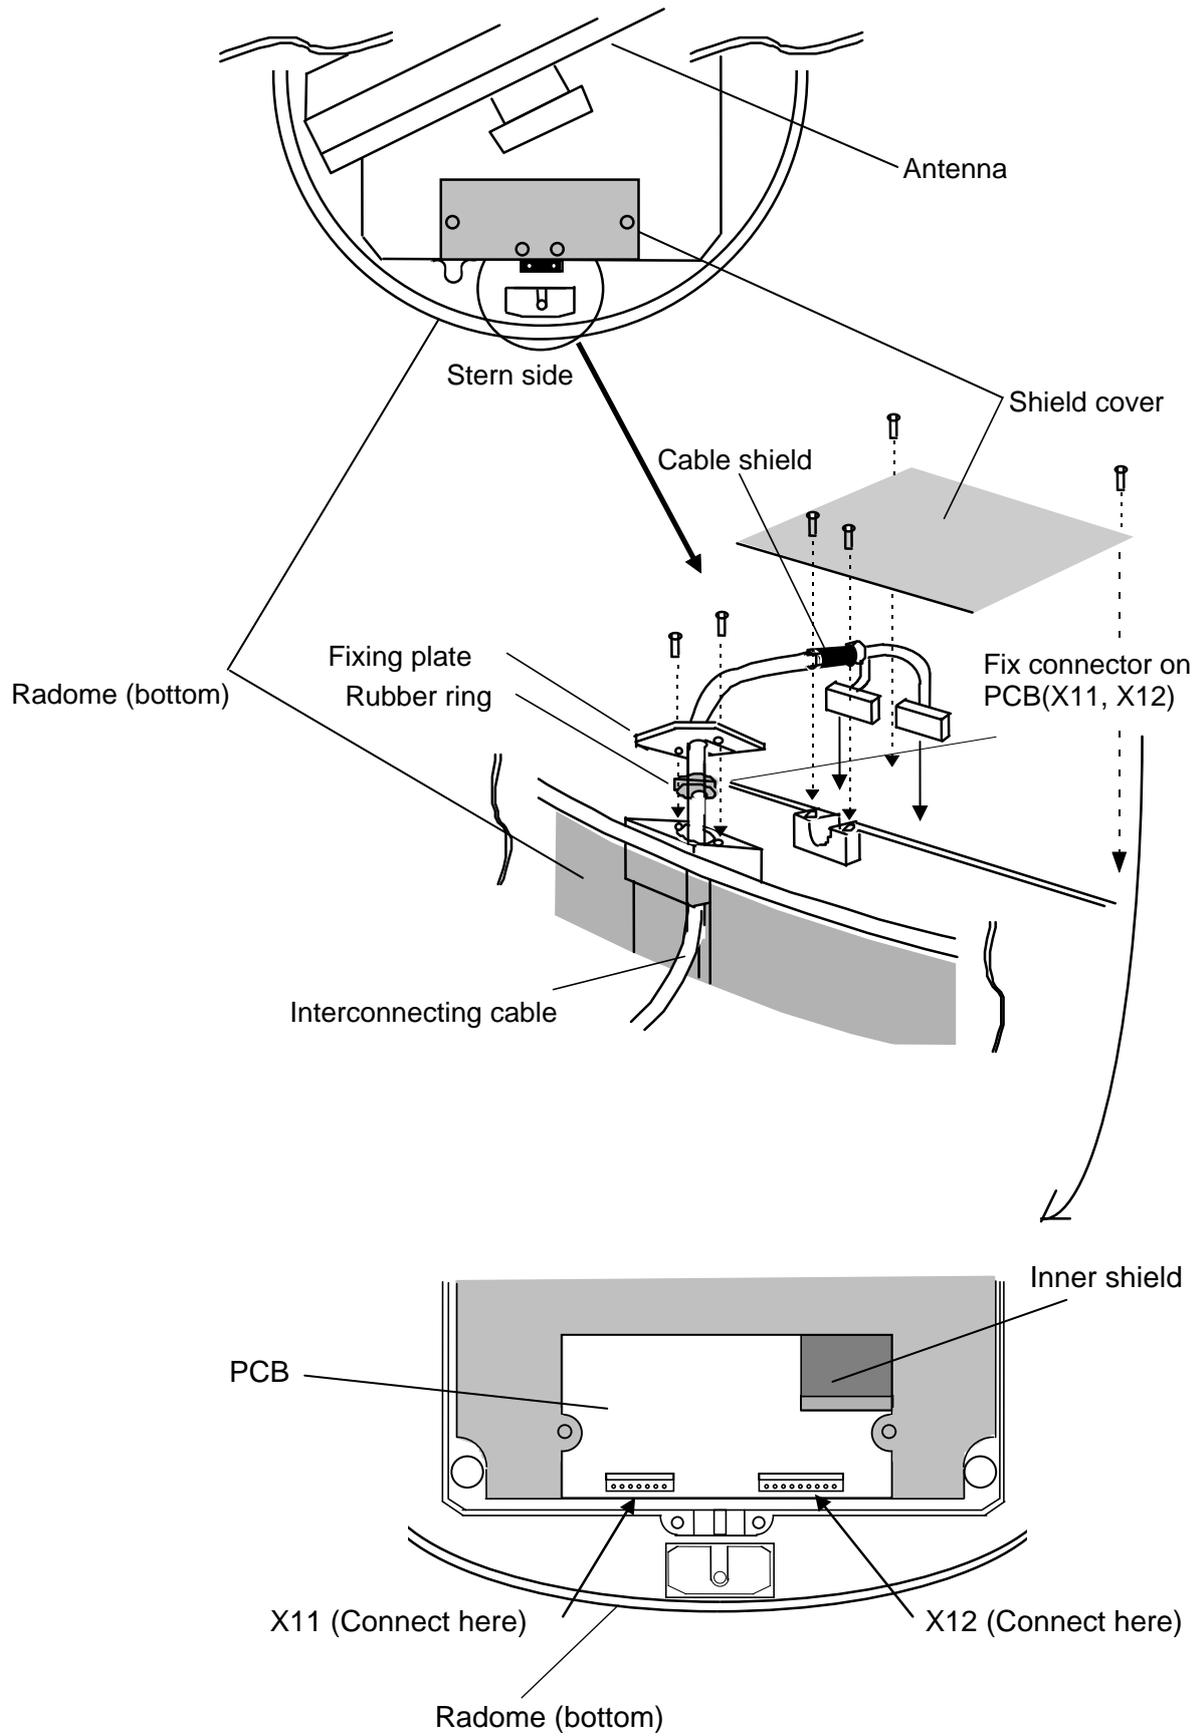

Fig.3-8-2 Fitting interconnecting cable (MDC-741)
3.7.1 Interconnecting cable (MDC-741 Radome scanner) (See Fig.3-8-2)